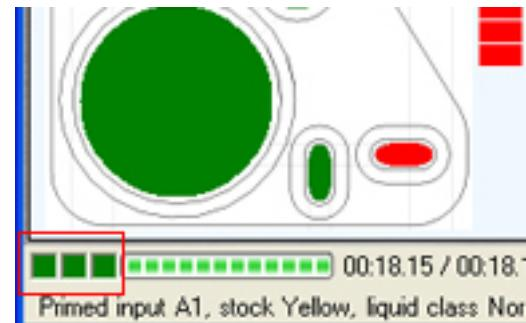

Fig. 14
- » Start the Formulator software. Make sure the three indicators in the bottom left panel of the software screen are green. (If not, see Maintenance & Troubleshooting.) See Fig. 14